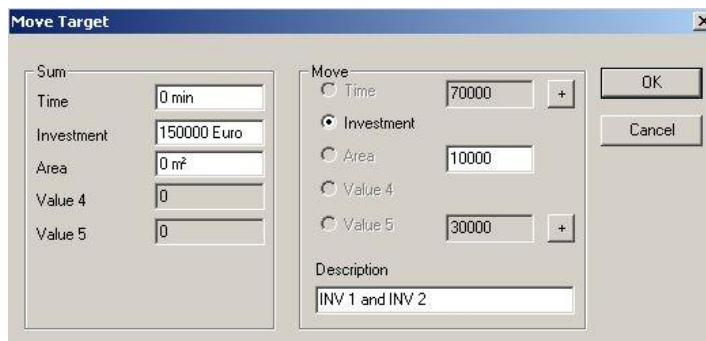

Figure 139: Move Target Dialog
Project targets can be edited if targets change during the course of a project. For example, you may wish to allocate originally planned investments to different production areas or you may prefer a different assignment of area space. This new assignment can be made in the **Move Target** dialog. Please refer to the Figure 139.
- 5) To move a value, just type the value in the required field (1000 in our example). This input determines the value you want to move. *Please refer to the Figure 139.*
- 6) The assignment of values can be made using the two plus buttons. The previously entered value will be assigned to the corresponding target at the point where you press the plus button. *Please refer to the Figure 139.*